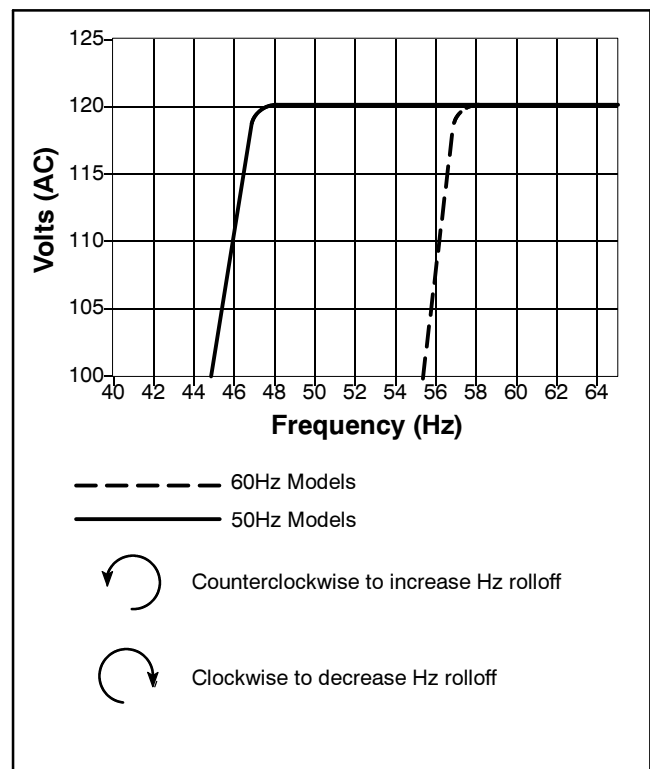

Figure 7-6 Volts/Hz Rolloff Chart
10. Turn the volts/Hz pot completely clockwise to decrease the Hz rolloff point. See Figure 7-6.